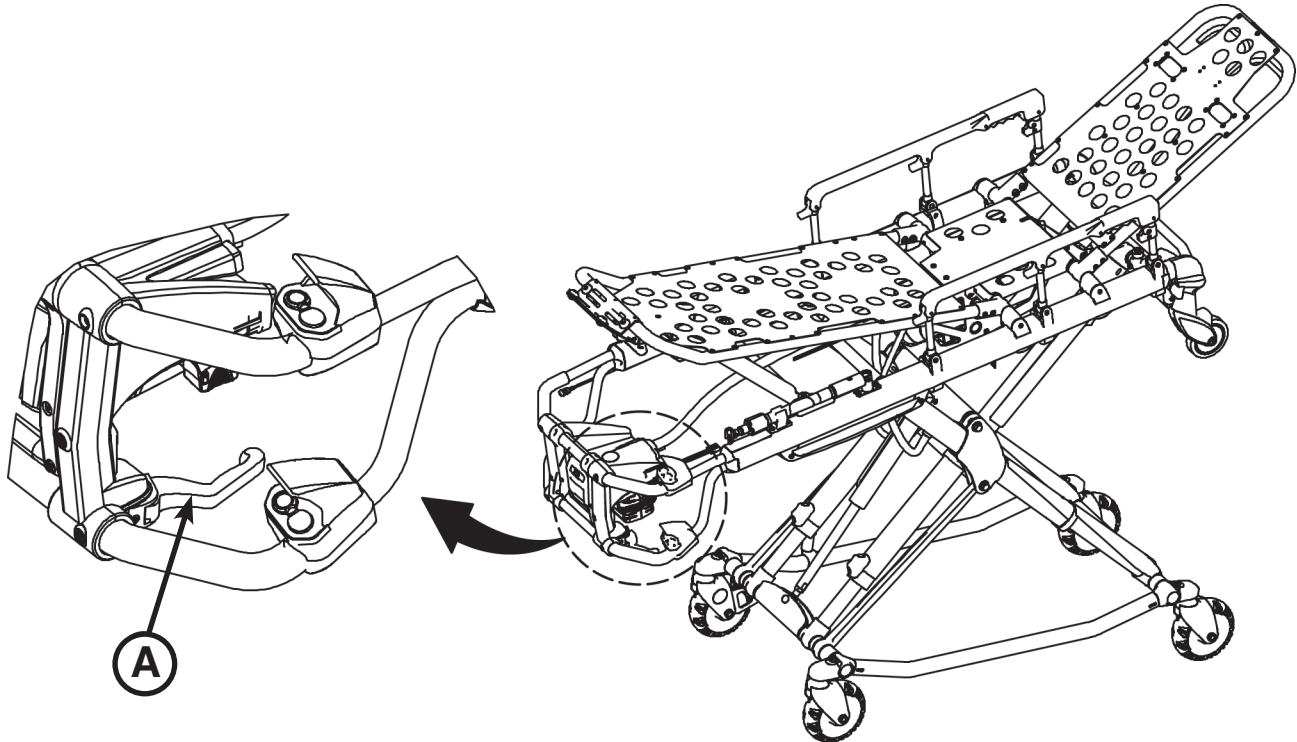

Figure 38
The **red** manual back-up release handle (A) is located along the patient left side of the lower lift bar at the foot end of the cot as shown in Figure 38.